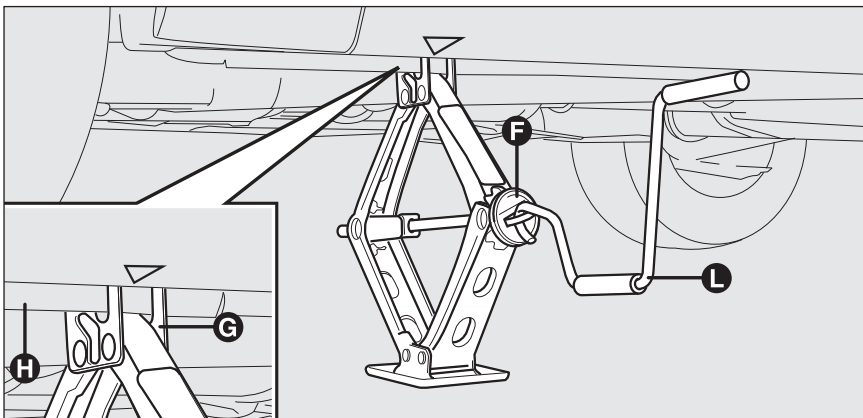

fig. 4
- operate device **F-fig. 4** to extend the jack until the top of the jack **G-fig. 4** fits correctly into jacking point **H-fig. 4**;
- fit the handle **L-fig. 4** to operate the jack and lift the car until the wheel is several centimetres off the ground;
- turn the jack handle **L**-fig. 4 to lower the car and remove the jack;